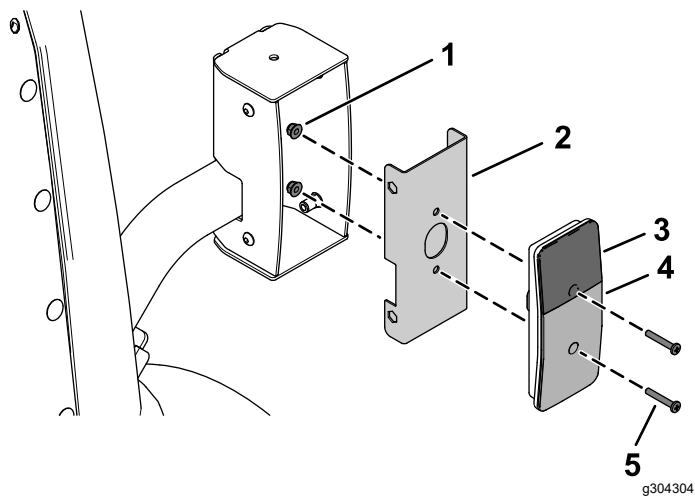
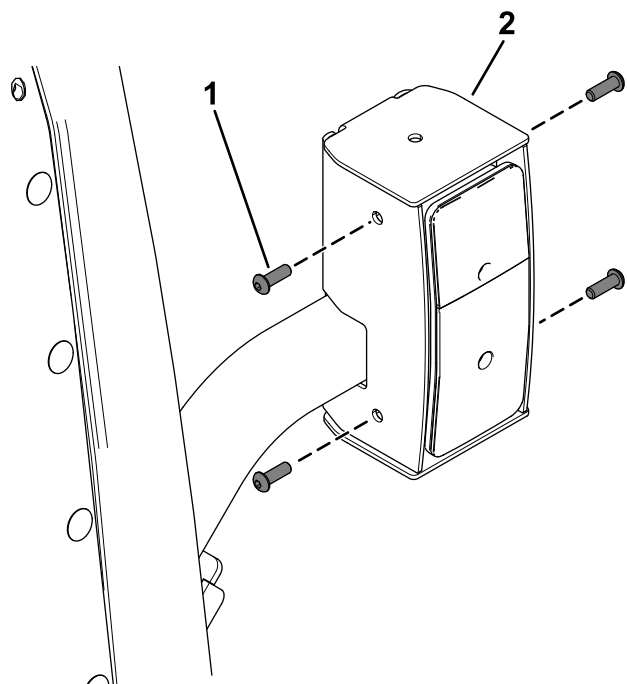

Figure 28
Figure 29
6. Secure the taillights to the inner mount assemblies using 4 pan-head screws (#10 x 1-1/4 inches) and 4 flange nuts (#10) as shown in Figure 28.
9. Secure the assembled taillights to the taillight housings using 8 button-head bolts (1/4 x 3/4 inch) as shown in Figure 29.
Ensure that you install the taillights with the yellow lens on top (Figure 28 and Figure 29).